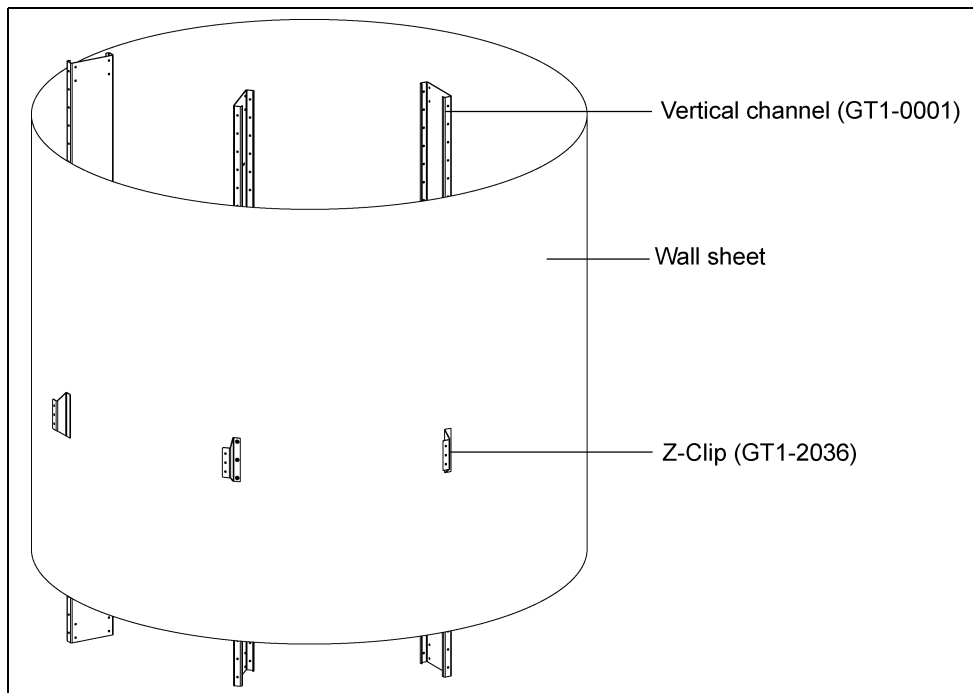
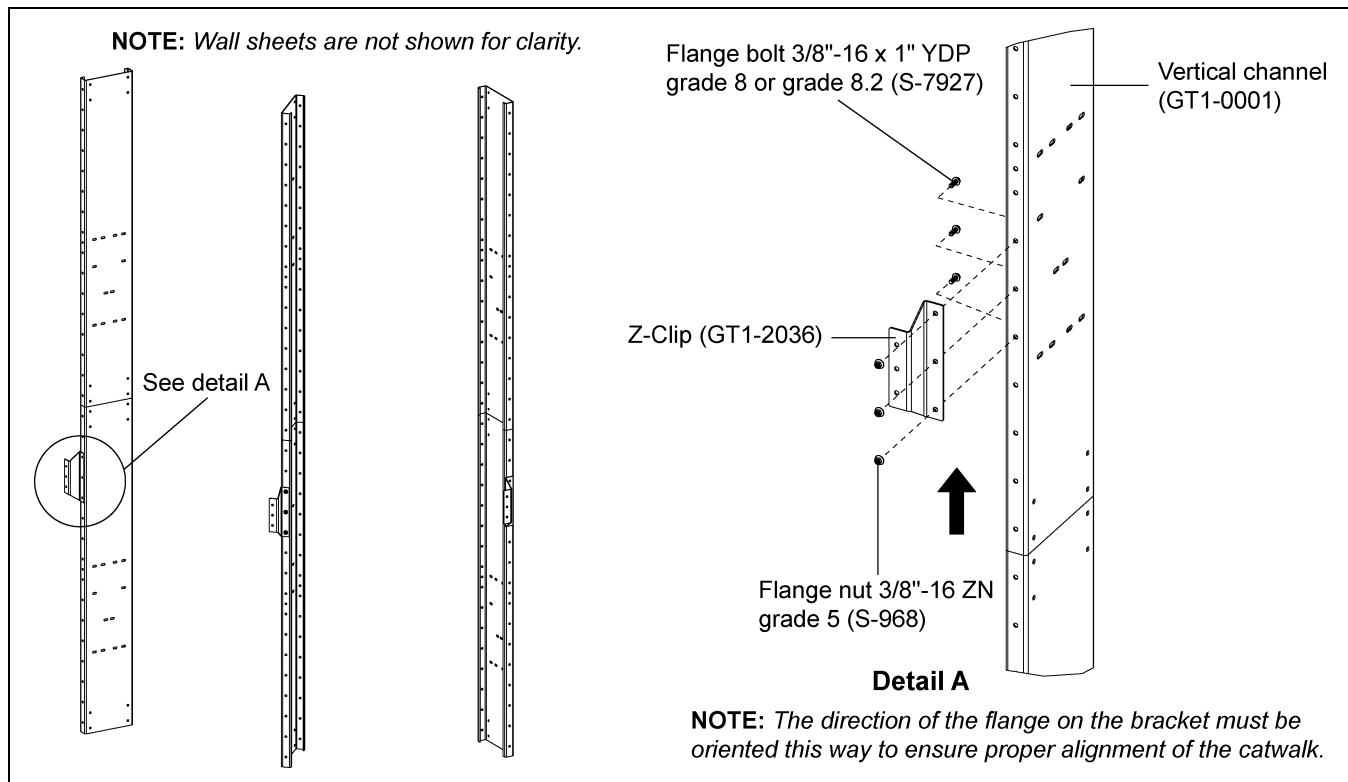
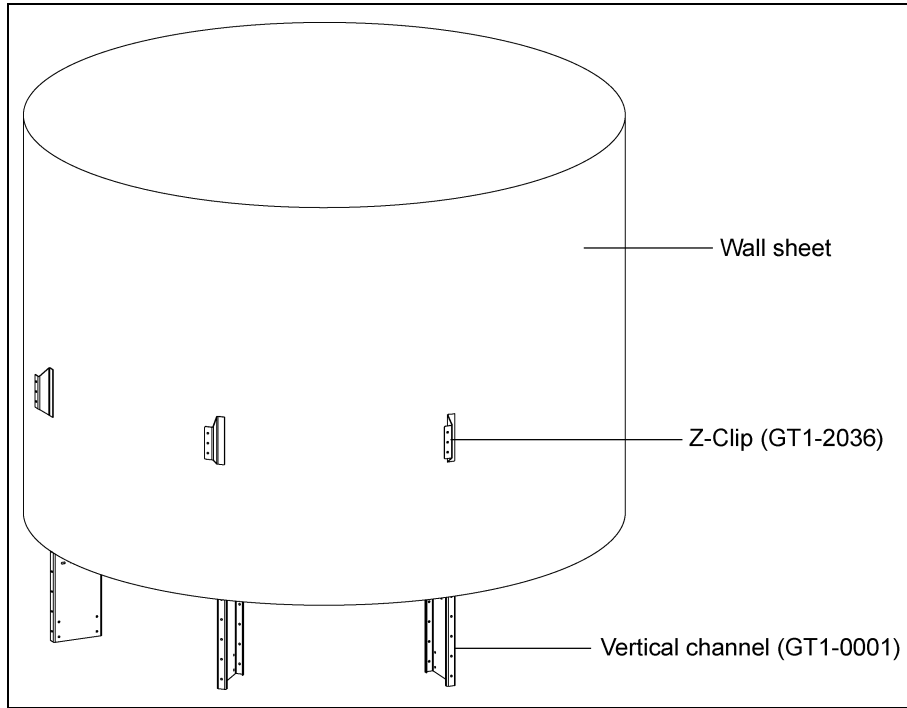
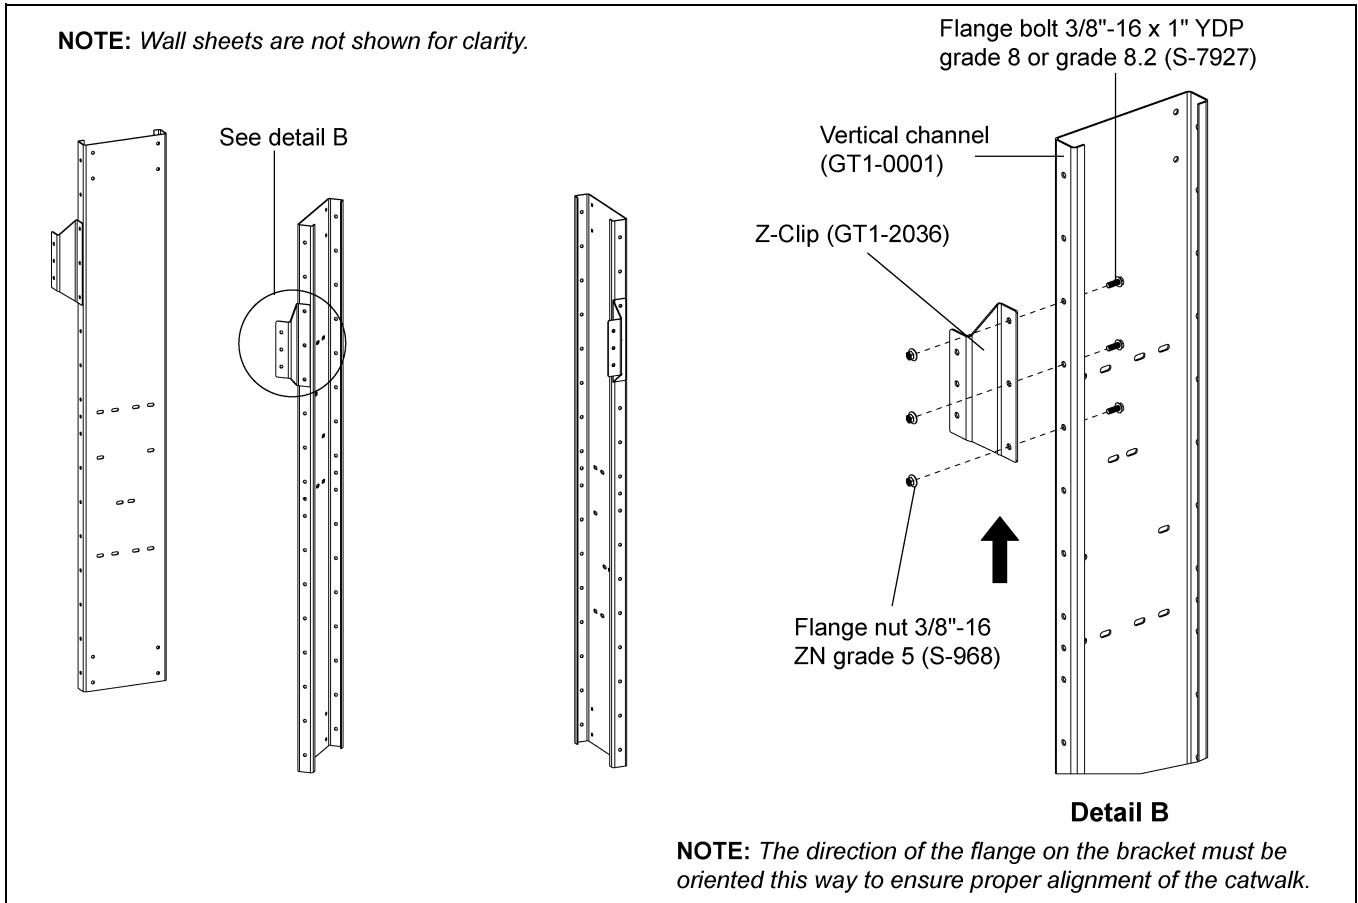

Figure 6A Offset Z-Clip Installation
Figure 6B Offset Z-Clip Installation
Figure 6C Roof Hatch Z-Clip Installation
Figure 6D Roof Hatch Z-Clip Installation
1. Bolt Z-clips (GT1-2036) to vertical channels (GT1-0001). The Z-clip can be installed on each vertical channel as wall sheets are installed using 3/8"-16 x 1" YDP grade 8 or grade 8.2 bolts (S-7927) and 3/8"-16 ZN grade 5 nuts (S-968). (See Figure 6A, Figure 6B below, Figure 6C and Figure 6D on Page 41.)